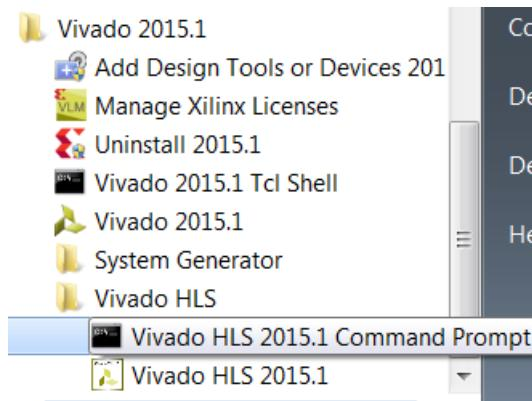

Figure 7-1: Vivado HLS Command Prompt
- On Windows use **Start > All Programs > Xilinx Design Tools > Vivado 2015.1 > Vivado HLS > Vivado HLS 2015.1 Command Prompt** (Figure 7-1).